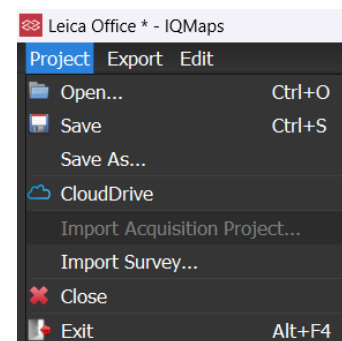

Fig. 34 Import survey step 3
- Press Save, and this will create the project format *.iproj Fig. 34.